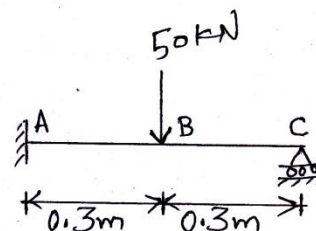

Figure 6
- Q.5** For a beam shown in Figure 6, obtain beam end forces and deflection under the load using finite element method. Plot shear force and bending moment diagrams. **14**